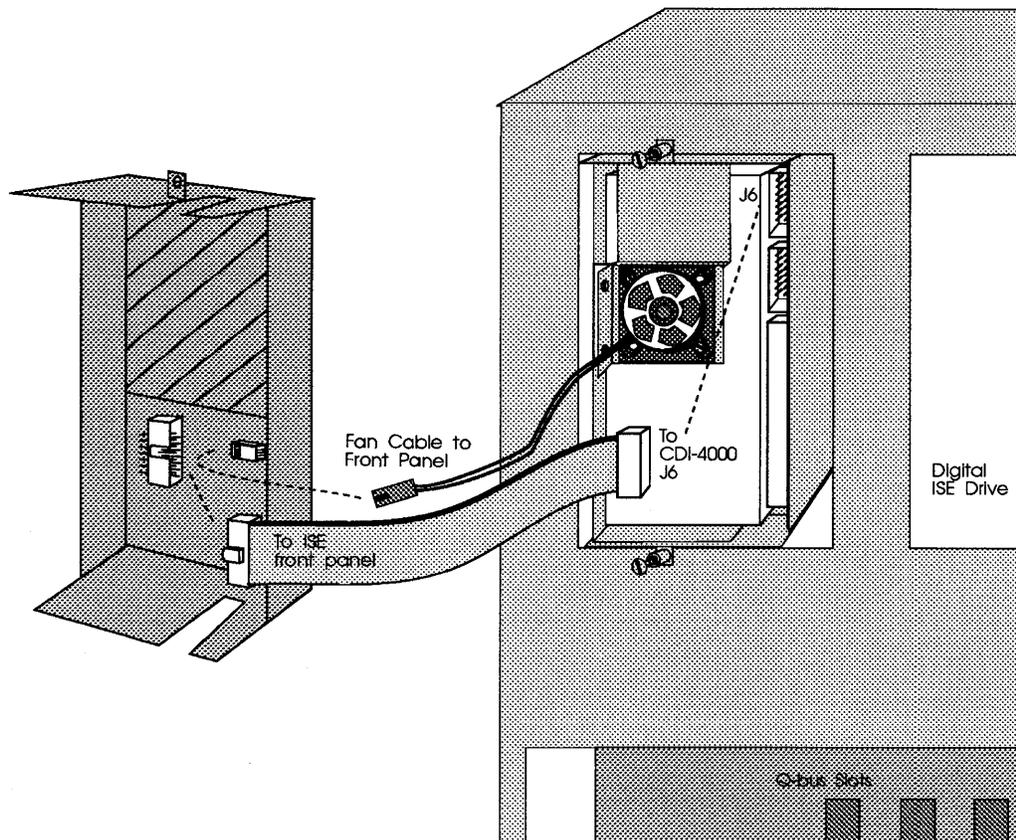

Figure 4-9: CDI-4000-SAE front panel connections
- 15 Connect one end of the 14-pin cable to J6 of the CDI-4000 and the other end into the back of the ISE front panel display. See Figure 4-9.
- 16 Connect the fan wire to the back of the ISE front panel display. See Figure 4-9.